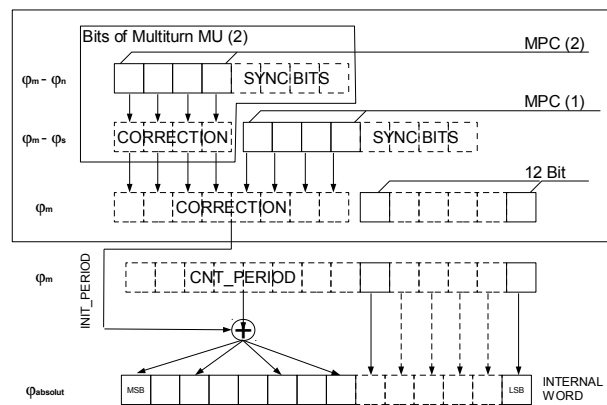

Figure 39: Principle of the synchronisation of a 3-track nonius system using 2 iC-MU without further multiturn data
Figure 39 shows the principle of the synchronisation of the data from iC-MU (2) to iC-MU (1).